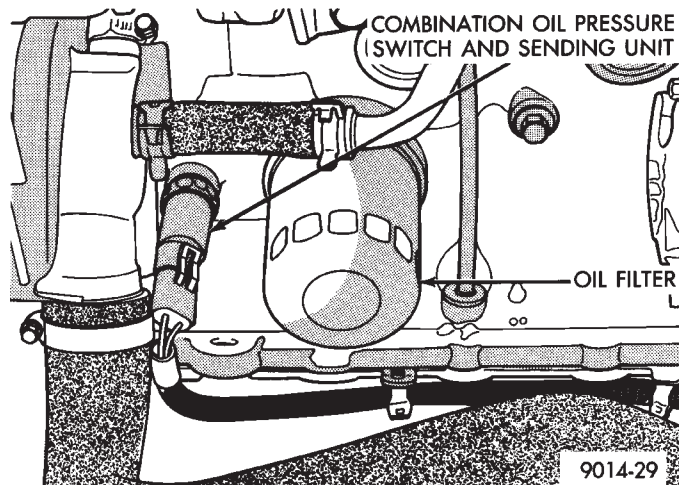

Fig. 6 Oil Pressure Sending Unit Electrical Connection
(8) Check the oil pressure sending unit electrical connection (Fig. 6).